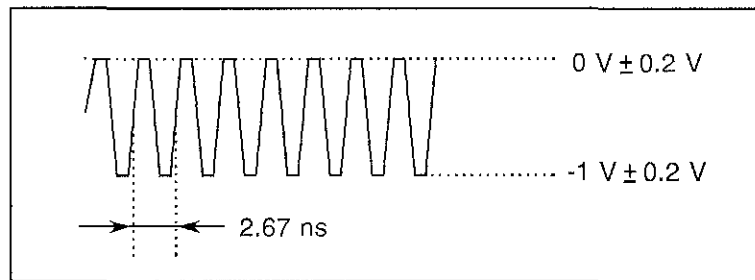

Figure 9-1 Waveform of the 1/32 CLK TRIGGER Output
- (5) If the waveform on the oscilloscope is a square wave which is similar to the one shown in Figure 9-1, the 1/32 CLK TRIGGER signal is evaluated as normal.